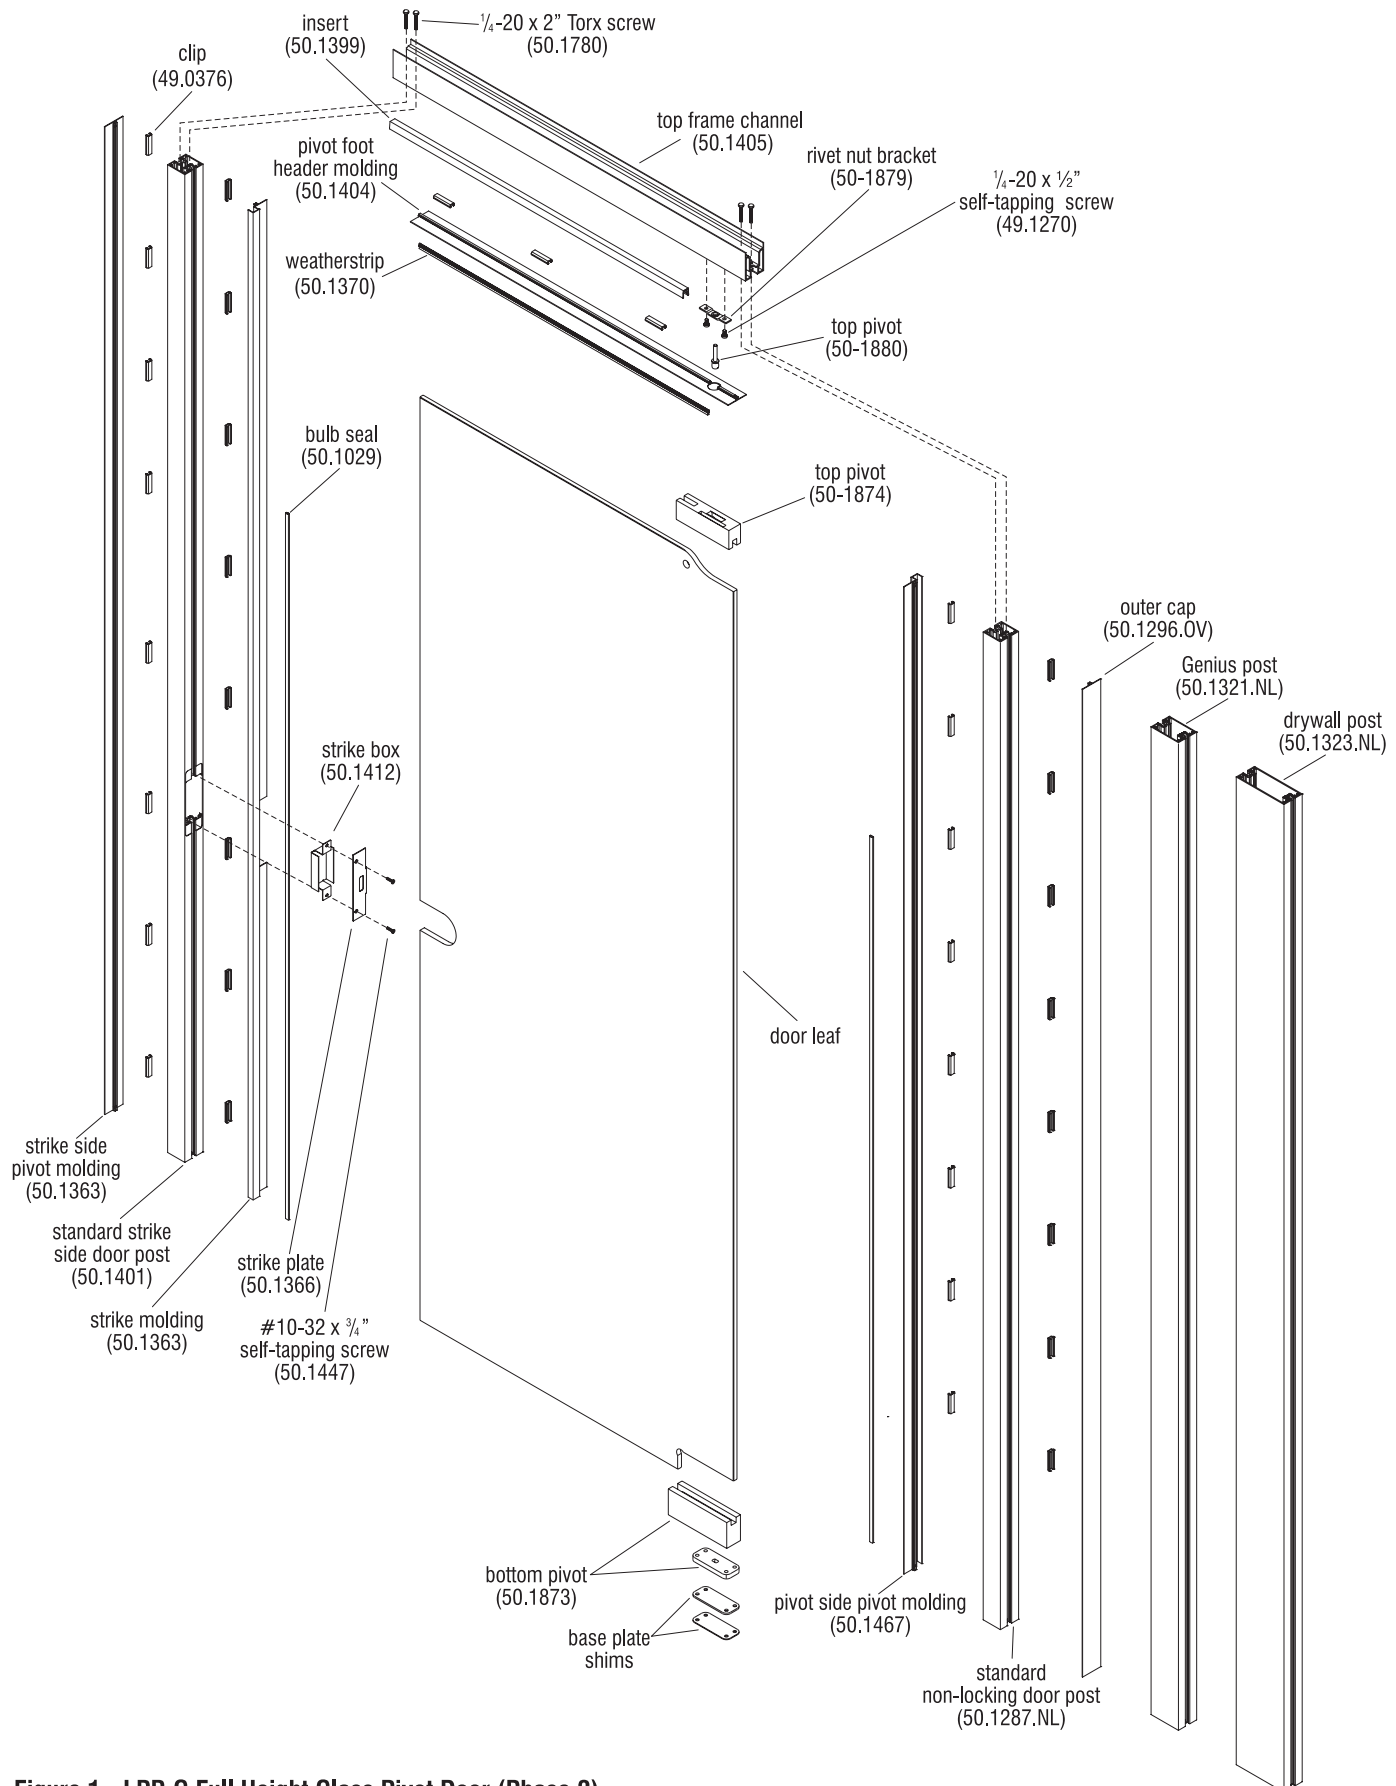

Figure 1 - LPP-G Full Height Glass Pivot Door (Phase 2)
post will sink into carpet, and also remove length for the $\frac{1}{8}$ " thickness of the pivot door plate (50.1369) (Figure 1).
4. Locate the standard non-locking door post and remove the two $\frac{1}{4}$ -20 x $1\frac{1}{2}$ " screws attaching the pivot door plate (50.1369) to the underside of the door post. Then measure from the top of the post to the bottom and mark the recorded measurement onto the post at the bottom end (taking into account for carpet and the pivot door plate). Cut the bottom of the post off square at that length, then re-install the pivot door plate removed above in this step (Figure 1).
5. Stand both door posts up under the ceiling rail at their respective installation locations and check that the posts are cut to the correct height. Remove the sample ceiling trim once the posts are known to be the correct height (Figure 1).
6. Lay the posts with the top frame channel onto a soft protective surface on the floor, in the correct orientation. Secure the pieces together using four $\frac{1}{4}$ -20 x 2" Torx screws (50.1780) (Figure 1).